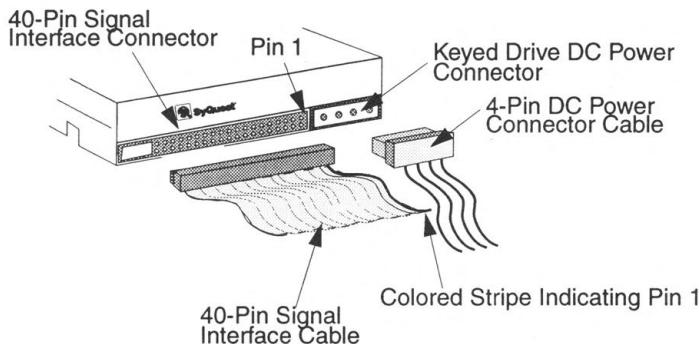

Figure 17. Close-up View of Cables Connected to the EZ135 Drive
**NOTE:** Make sure to align Pin 1 of the ribbon cable with Pin 1 of the drive connector. Pin 1 of the cable is marked by a colored stripe along the length of the cable. Pin 1 on the EZ135 drive is usually labeled by a "1" or a square solder joint near the DC power connector (See Figure 17).
Find an unused DC Power connector and attach it to the EZ135 IDE drive (See Figure 17). The power connector is shaped to connect only one way.